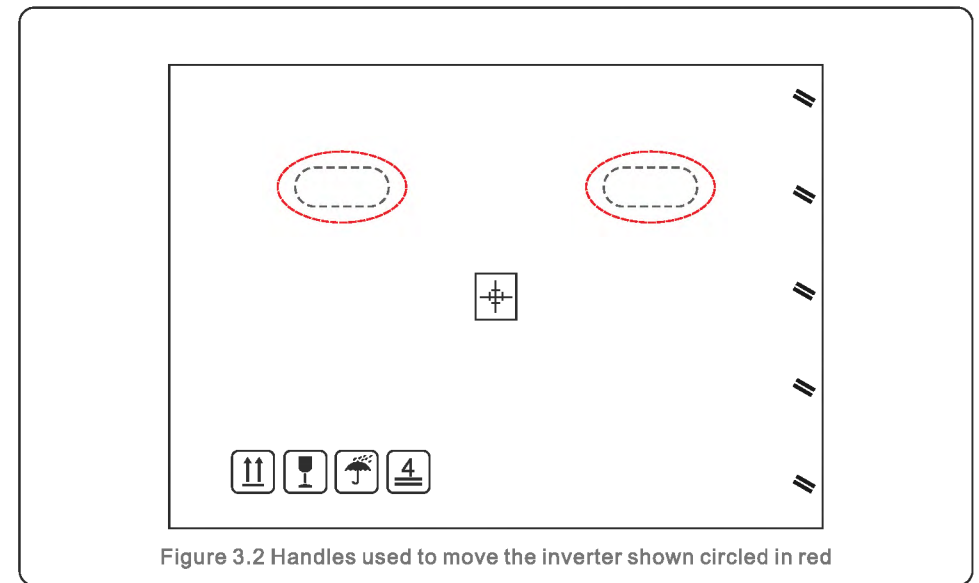

Figure 3.2 Handles used to move the inverter shown circled in red
- 1). The red circles below denote cutouts on the product package. Push in the cutouts to form handles for moving the inverter (see Figure 3.2).